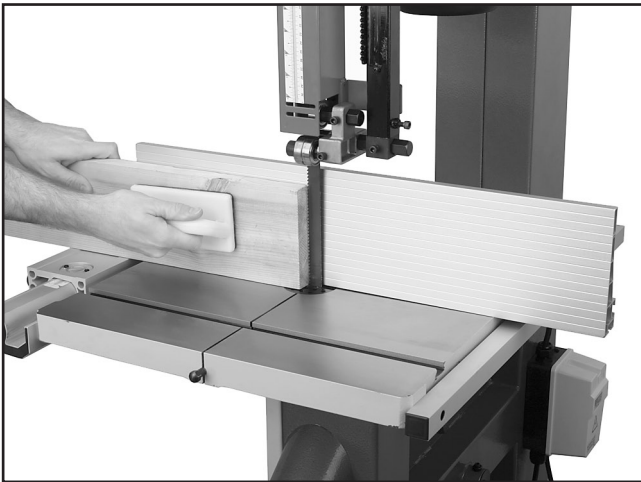

Figure 45. Resawing lumber.
Resawing (**Figure 45**) is the process of cutting a board into two or more thinner boards. The maximum board width that can be resawn is limited by the maximum cutting height of the bandsaw.
6. Using push paddles and a push stick, keep pressure against the fence and table, and slowly feed the workpiece into the moving blade until the blade is completely through the workpiece (see **Figure 45**).